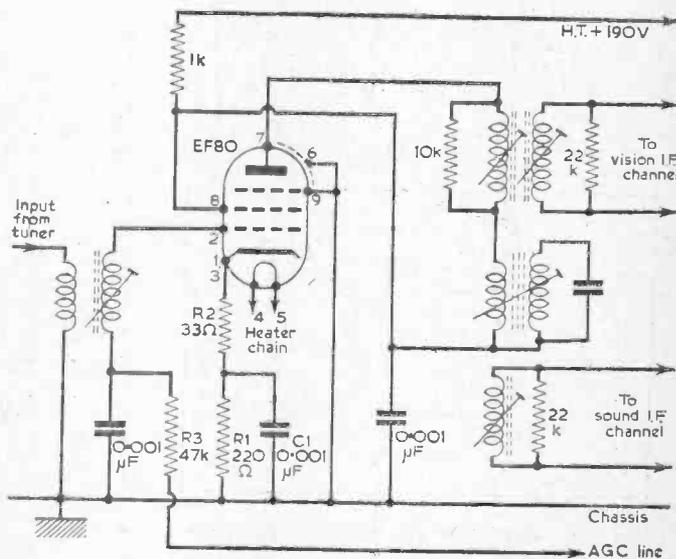

Fig. 1.—A conventional common I.F. amplifier stage, using an EF80, working at a maximum gm of about  $6\text{mA/V}$ .
In Fig. 1 is shown a fairly conventional common I.F. amplifier stage using an EF80 R.F. amplifier. This employs cathode biasing (R1) and is decoupled to R.F. by C1. The unbypassed 33Ω resistor is to prevent detuning of the amplifier by the AGC voltage which is applied to the control grid through R3. Without R2, the input capacitance of the valve would alter sufficiently with changes in bias to cause detuning of the grid circuit. This is avoided by the negative feedback resulting from the un-
**T**HIS month the tuner will be dealt with fully (stage 3 in Fig. 1 in the September issue) as will the Common I.F. stage (stage 4).
It would now be a good idea to turn to Fig. 1 again. Since there is neither sound nor vision, the trouble is almost certain to lie somewhere in those stages common to both the sound and vision signals. If the symptom occurs only on one channel, say, the BBC channel, then the most likely cause would be a break in the connections between the BBC aerial (1A—Fig. 1) and the diplexer—2.
We have cleared stages 1A, 1B and 2 (Fig. 1), and all the other stages, of course, except the common ones, 3 and 4. Thus, the exercise starts with the examination of these.